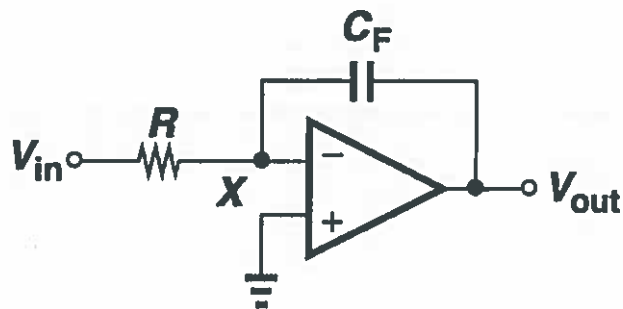

Figure 4.1
a) Figure 4.1 shows a continuous time integrator.